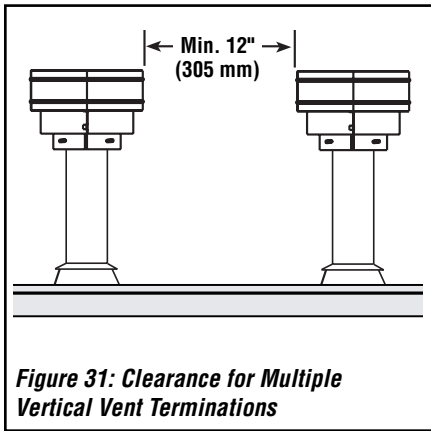

Figure 31: Clearance for Multiple Vertical Vent Terminations
- Terminate multiple vertical vents according to the installation codes listed above. Also see **Figure 31**.